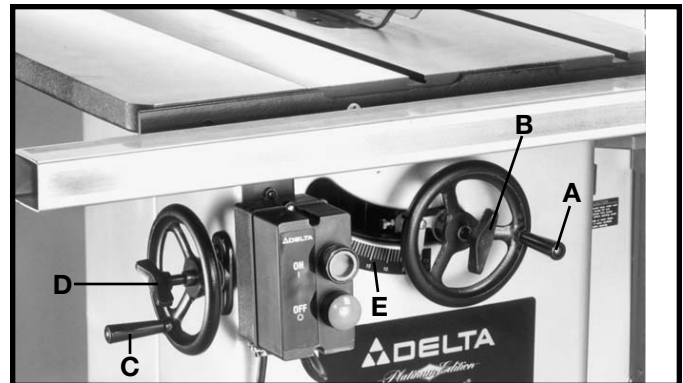

Fig. 121
The saw blade is raised and lowered with the front handwheel (A) Fig. 121. With the exception of hollow ground blades, the blade should be raised 1/8" to 1/4" above the top surface of the material being cut. With hollow ground blades, the blade should be raised the maximum to provide greater clearance. To raise the saw blade, loosen lock knob (B) Fig. 121, and turn the handwheel (A), clockwise. To lower the saw blade, turn handwheel (A) counterclockwise.
The saw blade is locked at any height by turning the lock knob (B) Fig. 121, clockwise. Due to the wedge action of this locking device, only a small amount of force is required to lock the blade raising mechanism securely. Any added force merely puts unnecessary strain on the locking device. Limit stops for raising or lowering are permanently built into the mechanism and need no further adjustment.
To tilt the saw blade to the desired angle, loosen lock knob (D) Fig. 121, and turn handwheel (C). A pointer indicates the angle of tilt on scale (E), which is marked in one-degree increments. To lock the saw blade in the desired angle of tilt, tighten lock knob (D).